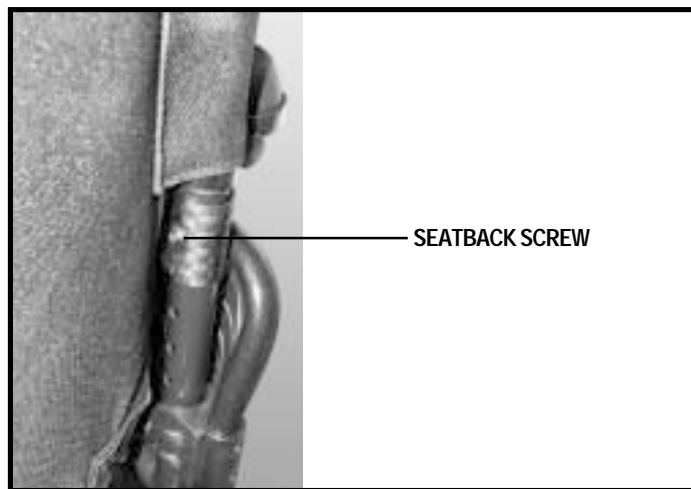

Figure 16. Seatback Screw Installation
10. Insert the seatback screws into the seat canes with the screw head on the inside. See figure 16.